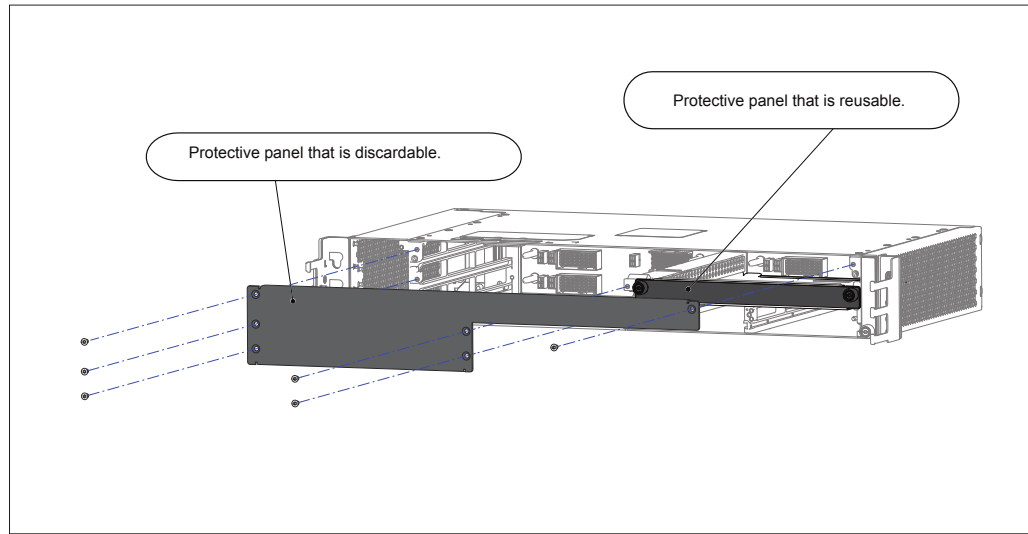

Figure 5 Remove Protective Panels for Chassis Empty with RP Card Slot and Line Card Slots during Transport
- Figure 5 shows how to remove the protective panels that are installed on the chassis which is empty with RP card slot and line card slots during transport.